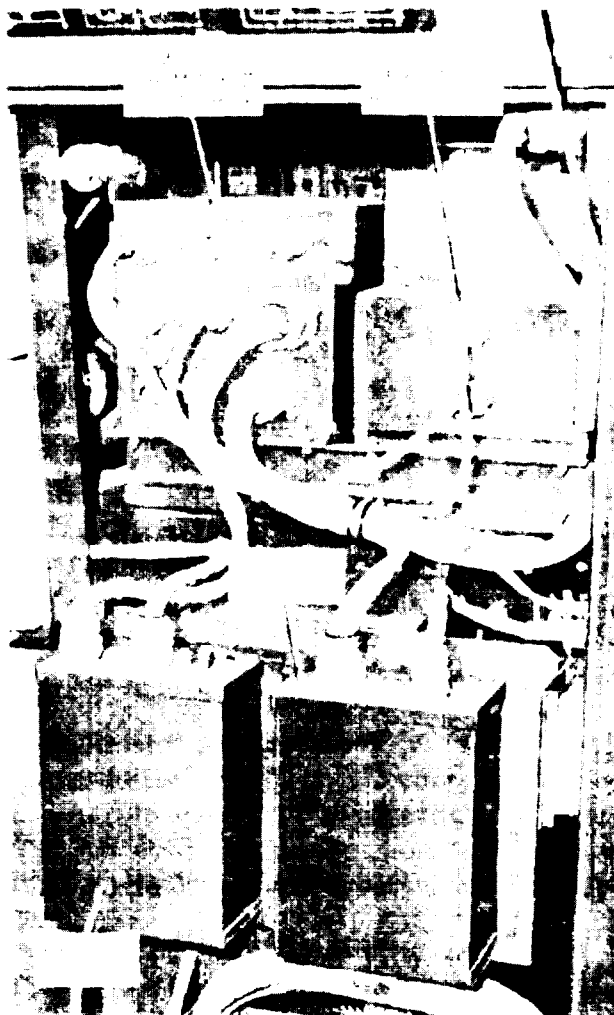

Figure 6-15. Location of exciter regulator and mode I, mode II, precise and tactical relay assemblies
Remove cover from exciter regulator to gain access to test points, see figure 6-15.
b. Removal. Disconnect plug P13 and P9 from the exciter regulator, then remove the four screws and nuts securing the assembly in position. See figure 6-15.